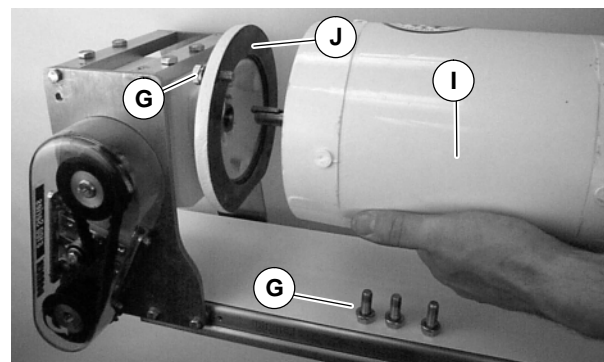

Figure 11
- Attach gear motor (I of Figure 11) to gear reducer (J) with screws and washers (G of Figure 10). Tighten to 41 Nm.